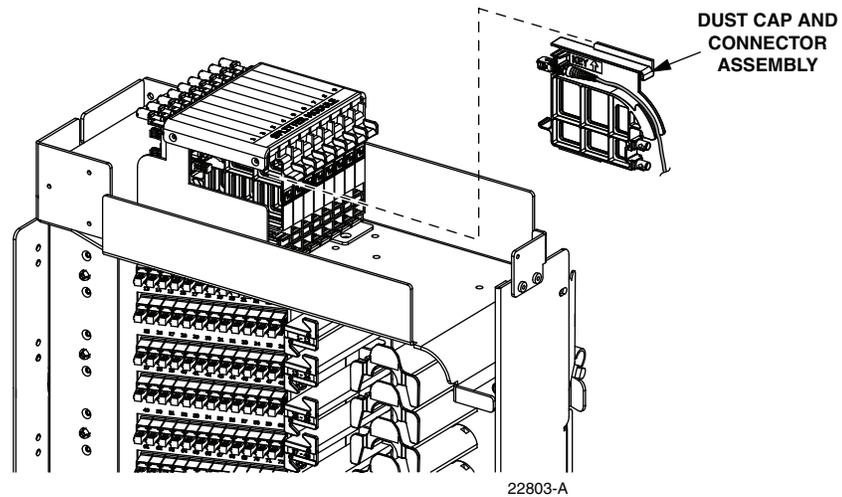

Figure 17. Inserting Dust Cap Assembly
9. Connect the patch cord connector(s) to the feeder cable connector(s) by inserting the dust cap assembly into the splitter slot as shown in Figure 17.